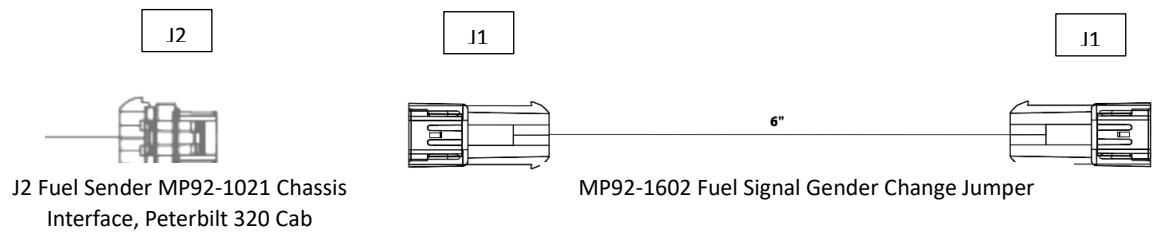

figure1
1) Locate the 520-fuel sender connector on the chassis wiring harness figure 1.